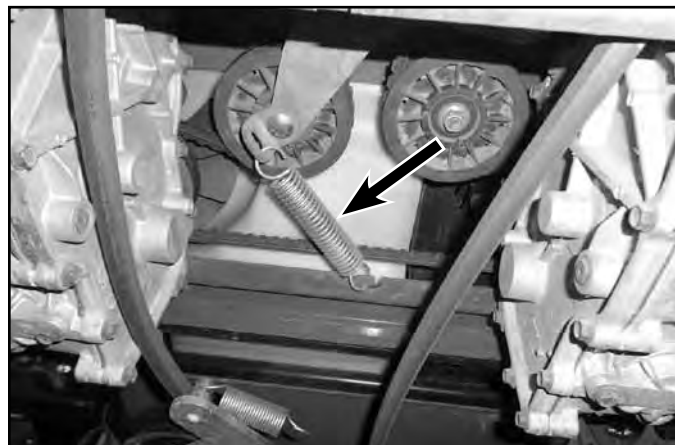

Fig. 075
4. Install the drive belt tensioner spring as oriented below (Fig. 075).